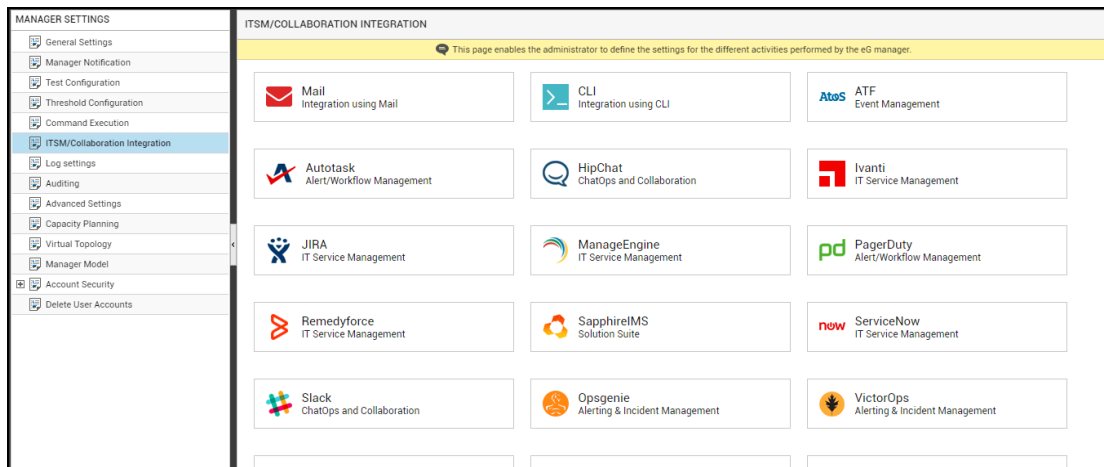

Figure 5.21: Viewing the ITSM/Collaboration tool options
3. Figure 5.21 will then appear. From the **MANAGER SETTINGS** tree in the left panel of Figure 5.21, select the **ITSM/Collaboration Integration** node. The third-party ITSM/Collaboration tools that eG Enterprise can integrate with will be listed in the right panel.
- Now, click on the **Moogsoft** option in the right panel (see Figure 5.21). A **Moogsoft** section will now appear in the right panel (see Figure 5.22).